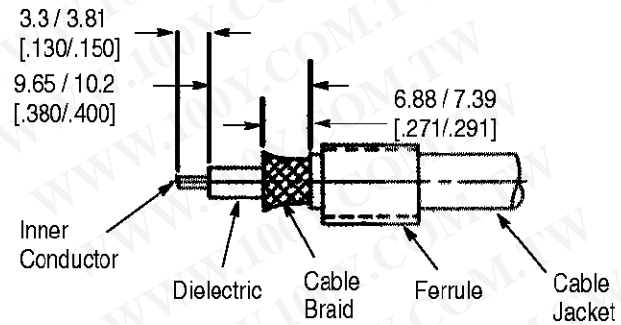

Figure 2
**2.1. Coaxial Cable Preparation** (Figure 2)
- Strip the end portion of the cable jacket to expose the cable outer conductor (cable braid) to the dimensions in Figure 2.
6. Flare the outer conductor as shown in Figure 2.